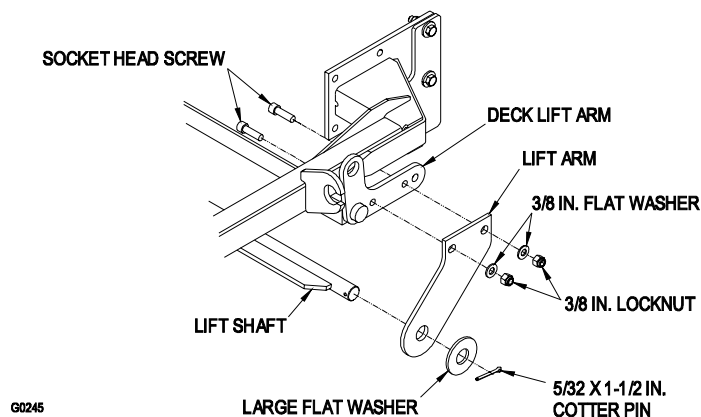

Figure 6
12. Attach one lift arm to each rear deck lift arm loosely. Using 2 socket head screws, 2 flat washers and 2 nyloc nuts per side (Fig. 6).